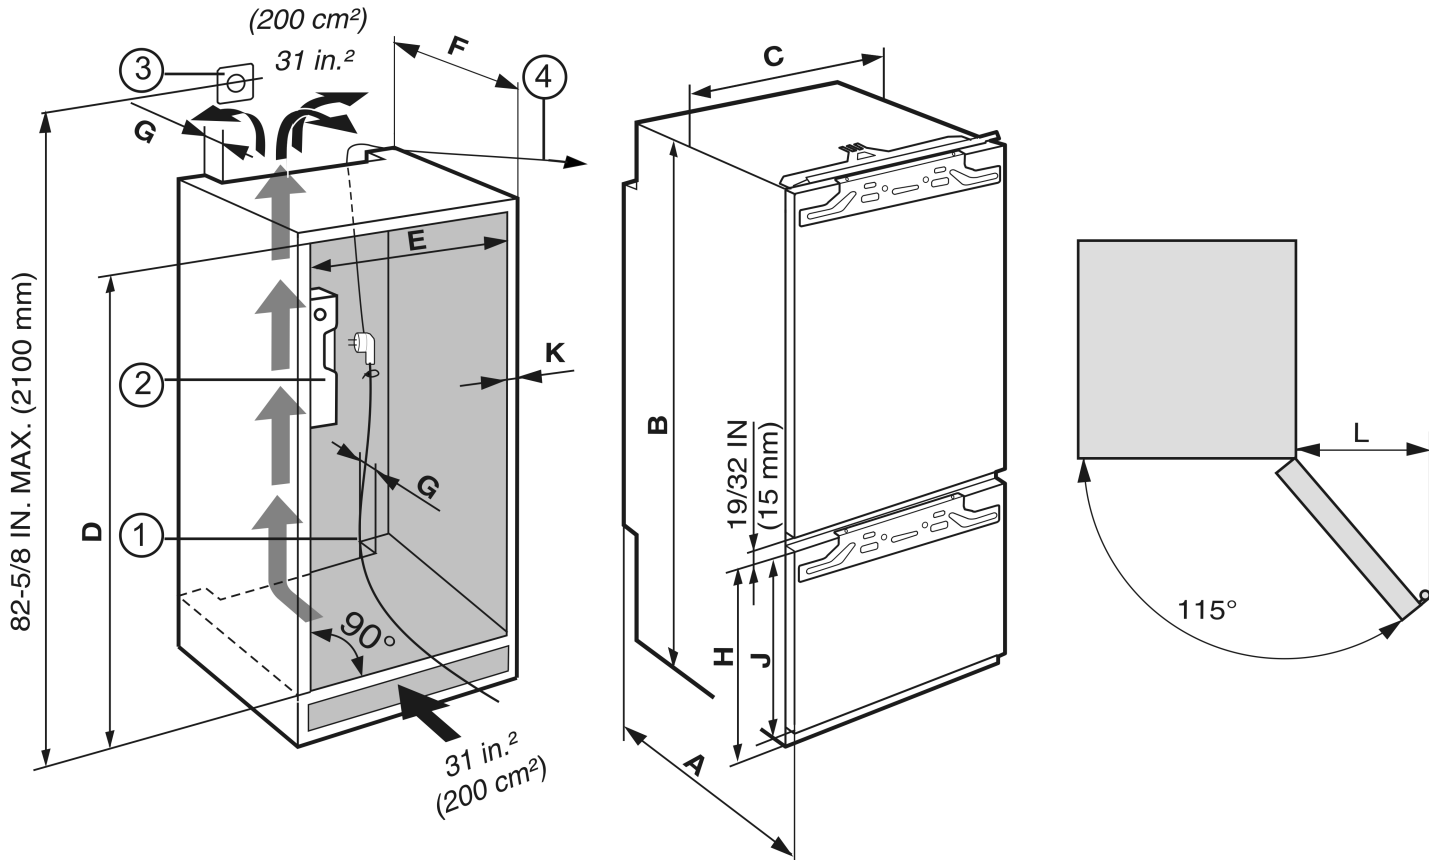

Fig. 4
- ▶ Construct the kitchen cabinet using the dimensions shown in Fig. 4.
- ▶ Align the kitchen cabinet with a level Fig. 4 (2) and a square. If necessary, shim underneath the cabinet to make it level.
- ▶ Follow the dimensions provided in Fig. 4.
► Check the installation dimensions according to *Fig. 4*.